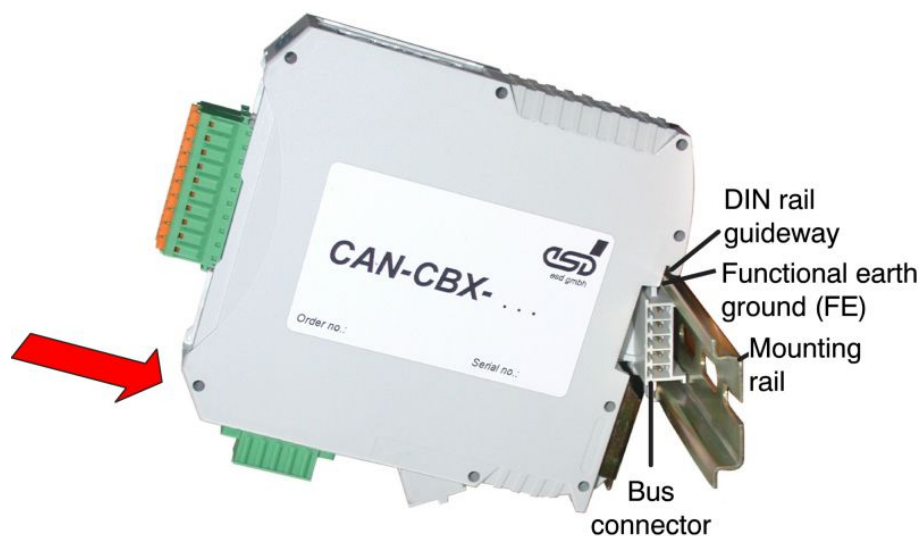

Figure. 13: Mounting CAN-CBX modules
3. Swivel the CAN-CBX module onto the mounting rail in pressing the module downwards according to the arrow as shown in figure 13. The housing is mechanically guided by the DIN rail bus connector.
Release the module from the mounting rail in moving the foot catch (see Fig. 13) downwards (e.g. with a screwdriver). Now the module is detached from the bottom edge of the mounting rail and can be removed.